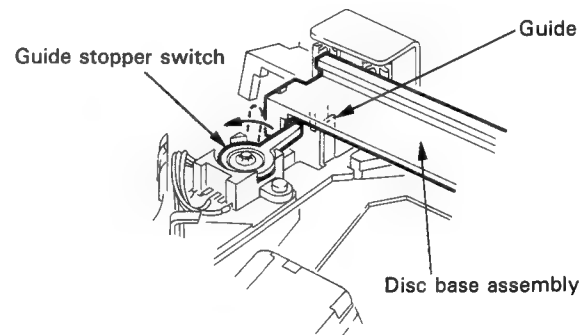

Fig. 7-25
8. While lifting the tip of the disc base assembly, move the blue guide stopper slide switch in the direction of arrow, and remove the switch from the disc base assembly (Refer to Fig. 7-25).